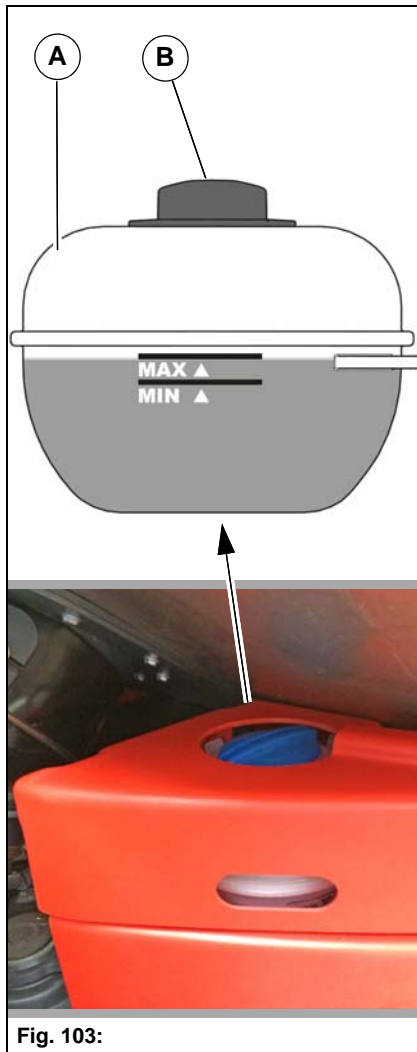

Fig. 103:
Check the coolant level in the expansion tank **Fig. 103-A** daily and refill as required.
3. Unscrew the cap **Fig. 103-B** carefully step by step from the expansion tank.